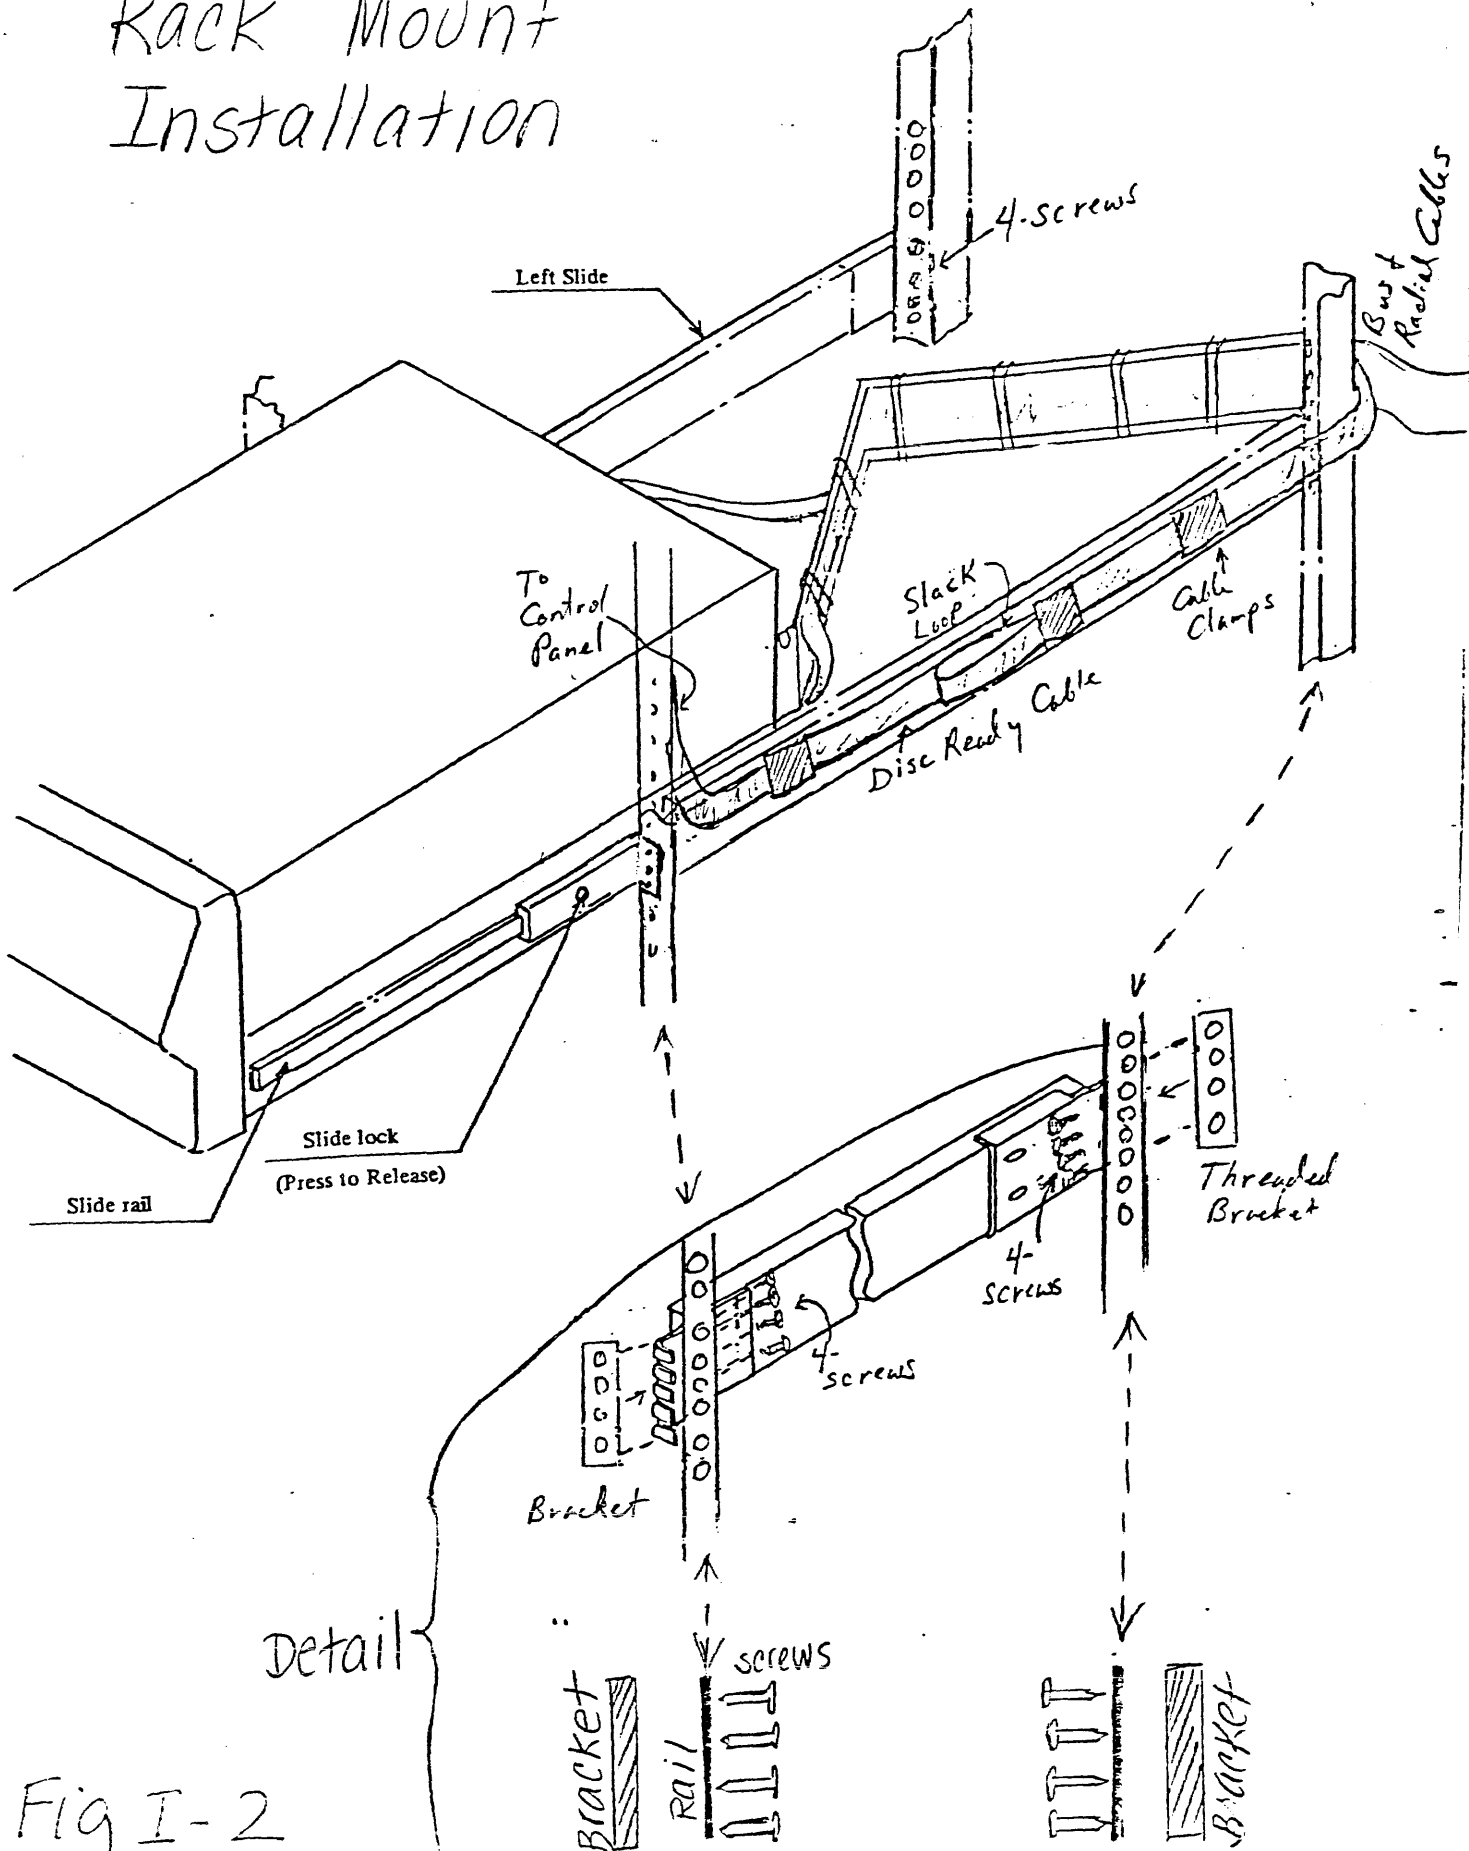

Fig I-2
- C. Using Figure I-2 mount the rail slides as shown.
5. Run the Disc Ready Cable from the Eagle Front Panel along the bottom of the chassis and out from underneath the Interface Board with the red strip facing the rail. (See Figure 0-7.) The Disk Ready Cable should be routed as shown in Figure I-2. Note the slack loop midway across the rail. The first drive plugs into the Wht/Grn and Wht/Red twisted pair. The 2nd drive plugs into the red/yellow twisted pair. The two smaller connectors are used for the 168 MB or 84 MB drive.